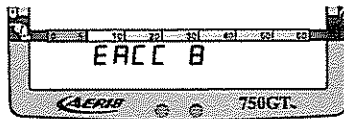

Fig. 82 - EACC Countdown
3. If you are not going to download information, press the Advance/Left button once to return to the Surface Mode. If you press the Select/Right button once, the letters EACC will appear with a countdown from '8' to '0' (Fig. 82). After counting down to '0', the 750GT will revert to the Surface Mode.